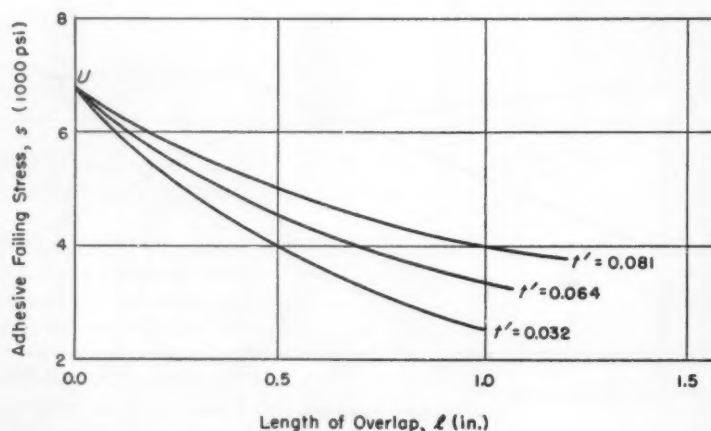

Fig. 5—Estimation of U as the common intercept of the family of curves for the stress formula of Method C as plotted for various adherend thicknesses, t' .
Step 5: For each adherend thickness plot a curve $s = f(l)$. Extrapolate each curve to a common intercept with the stress axis $l = 0$. The value of s at this common intercept is the apparent shear strength, U , Fig. 5. For better accuracy use statistical techniques to determine the values of the common intercept (see Appendix, Section 3).